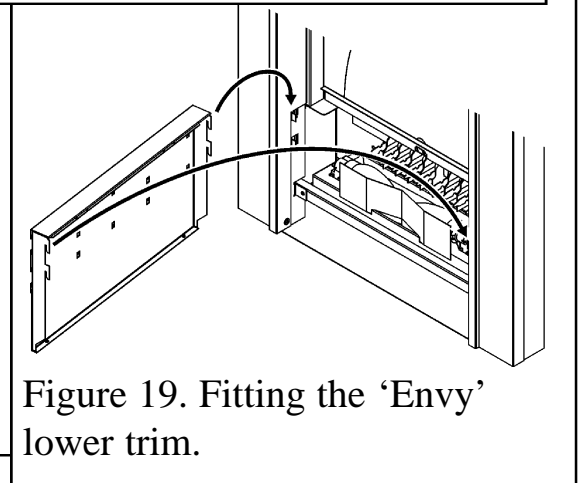

Figure 19. Fitting the 'Envy' lower trim.
2. Hang the lower trim at the bottom of the fascia (See figure 19).